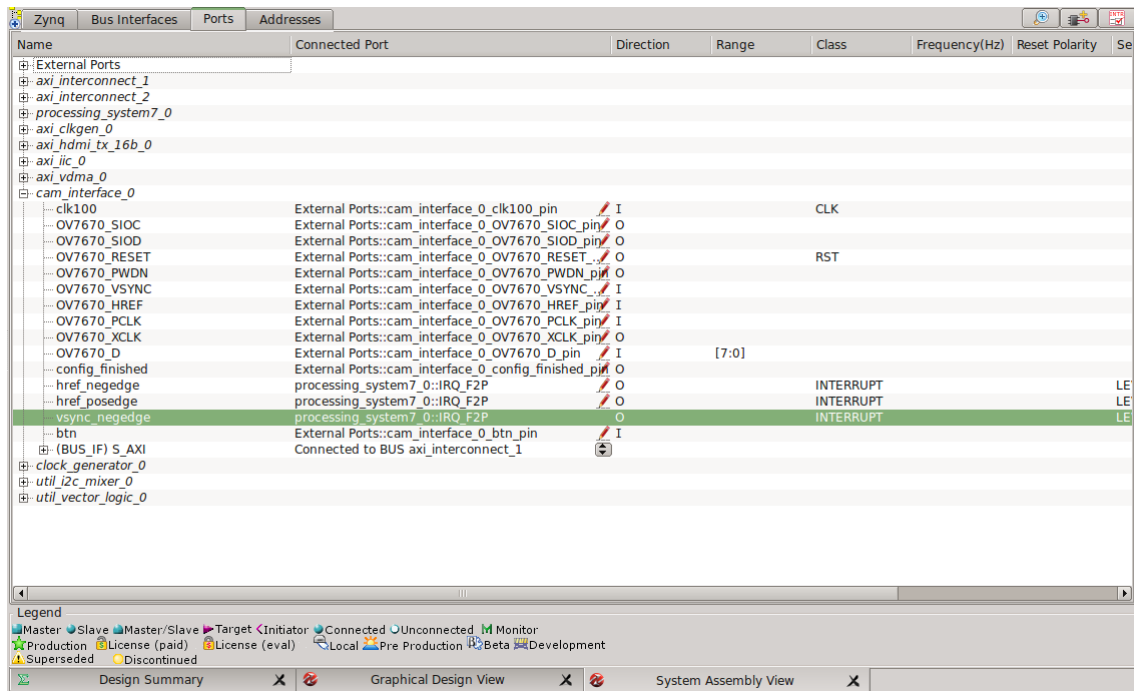

Figure 1.6.: Port connections for cam_interface_0 instance.
7. Expand the ports of cam_interface_0. Make clk100 port as External by right-clicking on clk100, and select *Make External*. Similarly, make all other ports of cam_interface_0 module as external, except the interrupt signals (href_negedge, href_posedge, and vsync_negedge) (Figure 1.6).